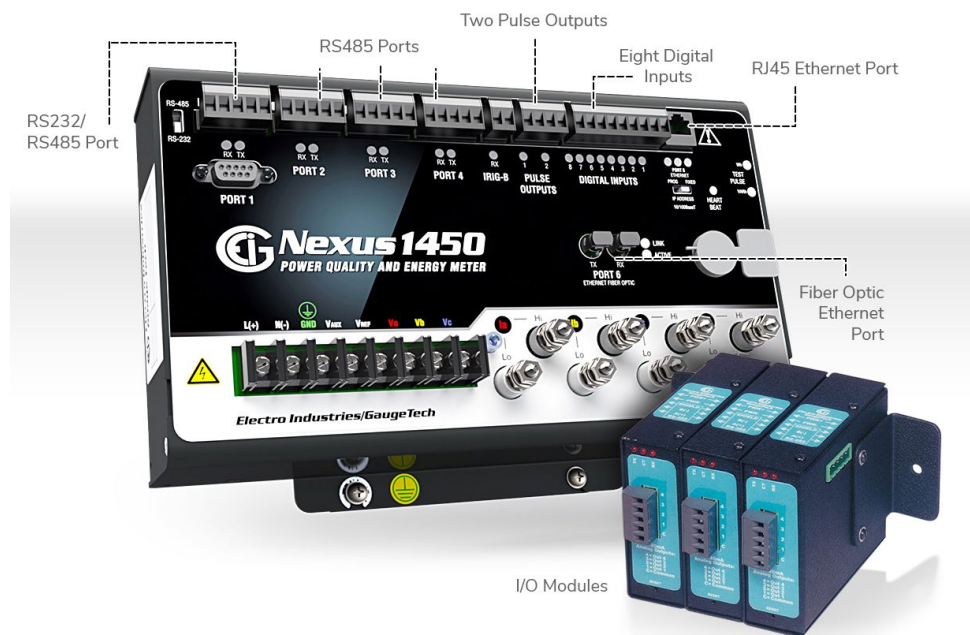

Figure 4. Illustration of physical communication ports on an advanced electricity meter.⁹
- **Physical port:** A physical interface on a piece of hardware. This includes physical connectors like a USB port, an Ethernet (LAN) port, or a RS-485 serial COM port. (See physical port examples in Figure 4). A physical port corresponds to the Physical layer of the OSI model.